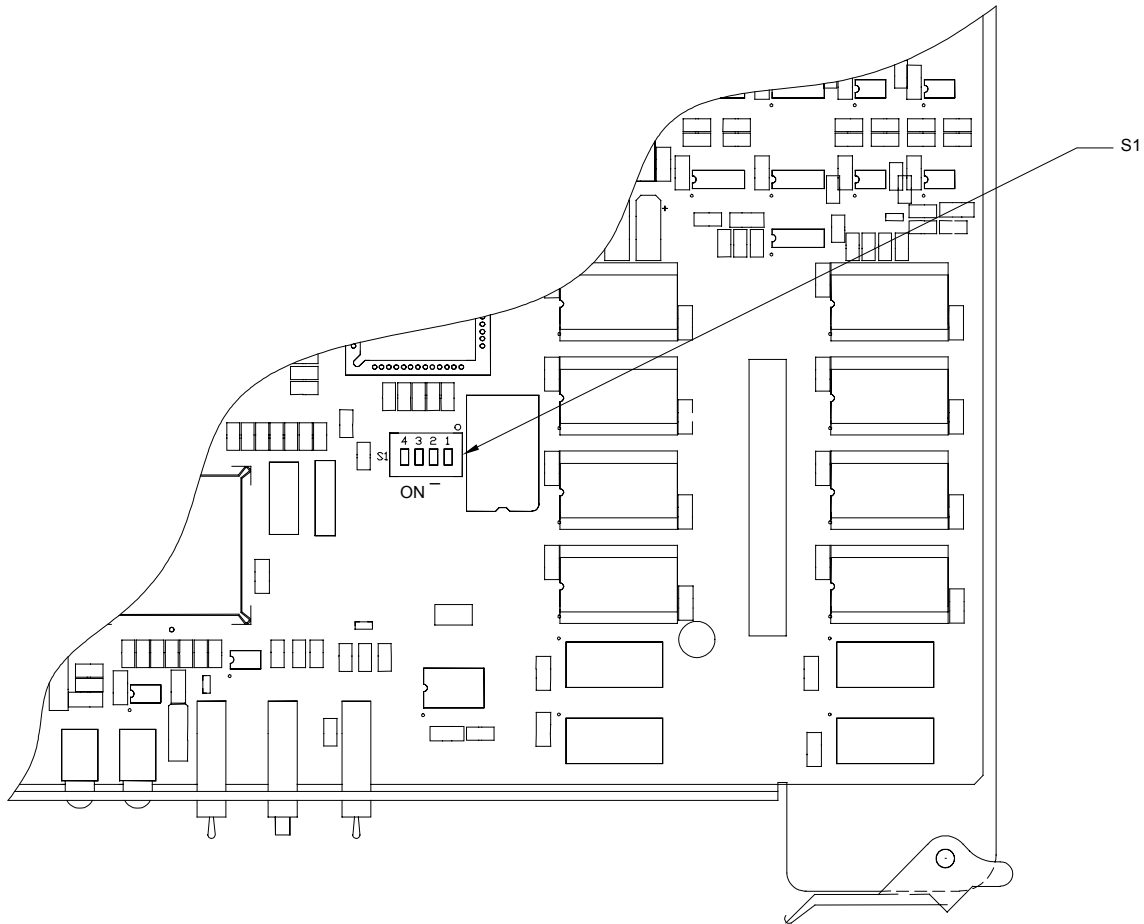

Figure 39. 3500Plus S1 (Operational Mode/Config Bypass/Comm Rate)
2. Remove the 3500Plus from the chassis to allow access to switch S1 (see Figure 39 on page 30). Set switch S1-2 to the ON position in accordance with Table 10 on page 31.